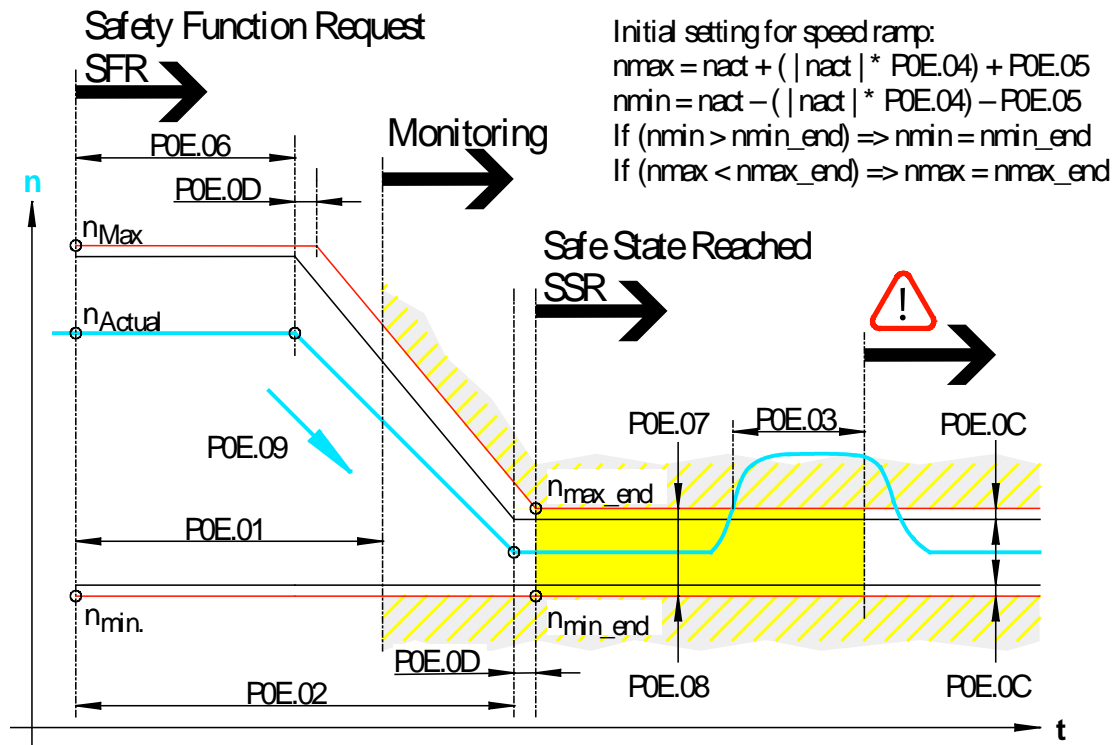

Figure 27: Flow diagram SSF0
Table 57: Legend for Figure 27
The safety function SSF0 monitors the speed of the drive in the stationary state. The permitted speed corridor is defined using the parameters "Safe speed - upper limit" (P0E.07/..., n_{max_end}) and "Safe speed - lower limit" (P0E.08/..., n_{min_end}) (→ Figure 27, right-hand section).
- The position of the start window is set relative to the desired speed corridor and the initial values are adapted as necessary to produce a trapezoidal, tapering speed corridor (see Figure 27).